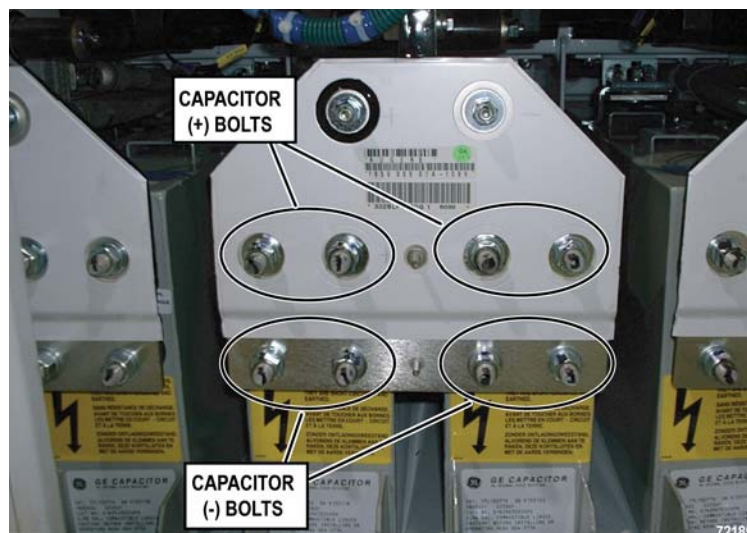

FIGURE 00-8. CAPACITOR TERMINAL POLARITY
2. With a suitable high voltage meter rated for at least 2000 VDC, such as PC3186 or equivalent, plus suitable protective equipment, measure the voltage across each of the DC link capacitors. Place one meter lead on the positive (+) capacitor terminal, and the other meter lead on the negative (-) capacitor terminal, and observe the voltage. See Figure 00-7 and Figure 00-8. If the voltage is less than 1.0 V the capacitor is sufficiently discharged. Repeat on all DC Link capacitors. If the voltage of any capacitor is above 1.0 V, manually discharge the capacitor as described in "Manual discharge of capacitors".
3. Discharge the relevant capacitors. Open the door(s) and place one grounding stick on one of the positive (+) capacitor terminals and the other on the diagonally located negative (-) terminal. Refer to Figure 00-8 and Figure 00-10. Attempt to minimize the time between application of the positive stick and the negative stick so that the current flow will be positive to negative rather than either to ground. Leave sticks in place until capacitors are discharged. Refer to Figure 00-10.